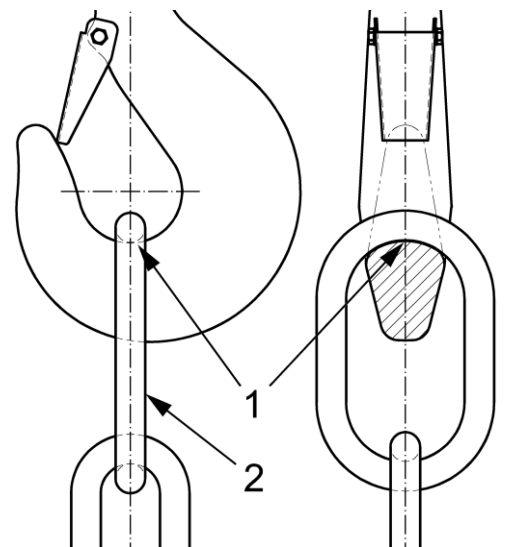

Figure 3.2.1g
13. Connect the suspension with the carrying device. Pay attention to the lifting capacity of the lifting appliance. When connecting with a crane hook, the suspension link on the load hook must be able to move freely and rest in the hook base (see Fig. 3.2.1g)